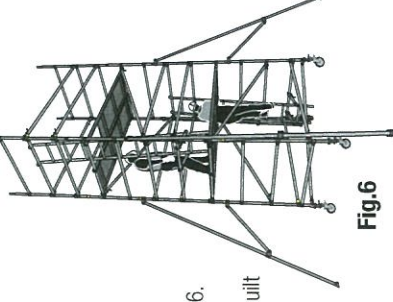

Fig.6
**17.** Tower is now complete with top working platform at 4m height, as shown in Fig 6.